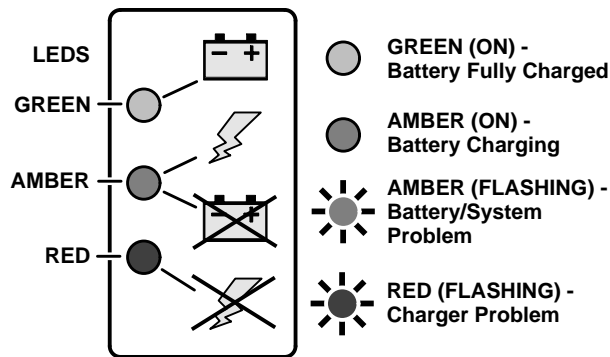

Figure 3-12. Charger Decal LED Indicators
3. When powered up the charger will go through a short LED indicator self-test. The battery charger LED indicators on the charger (*Figure 3-12.*), will flash in sequence for two seconds. These LED indicators can be viewed
If a fault has occurred during battery charging, the (AMBER or RED) LED on the charger LED indicator (*See Figure 3-12.*) will flash corresponding to the fault which occurred. Refer to Table 3-1 following for the charger LED flash codes and their meaning.